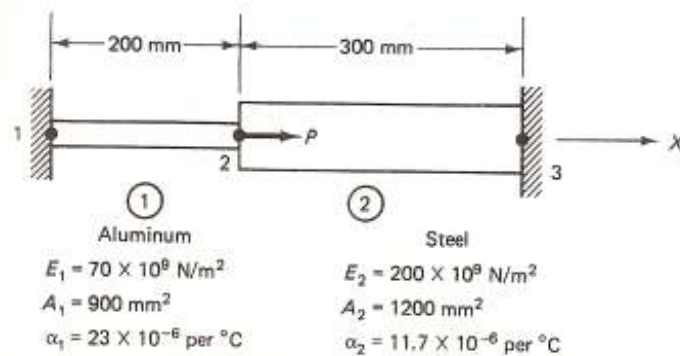

Fig. 3
- Q.3** (a) An axial load  $P = 300 \times 10^3 \text{ N}$  is applied at  $20^\circ\text{C}$  to the rod as shown in Fig. 3. The temperature is then raised to  $60^\circ\text{C}$ . 06